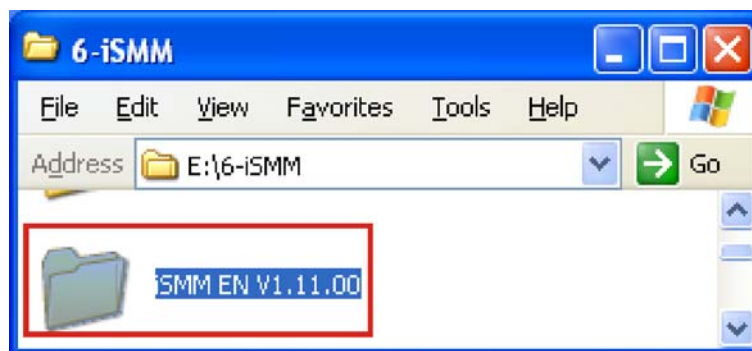

Figure 6-29: iSMM Directory
Step 3: The iSMM directory appears. (Figure 6-29)
Step 4: Double click the **iSMM EN V1.11.00** directory icon. (Figure 6-29)